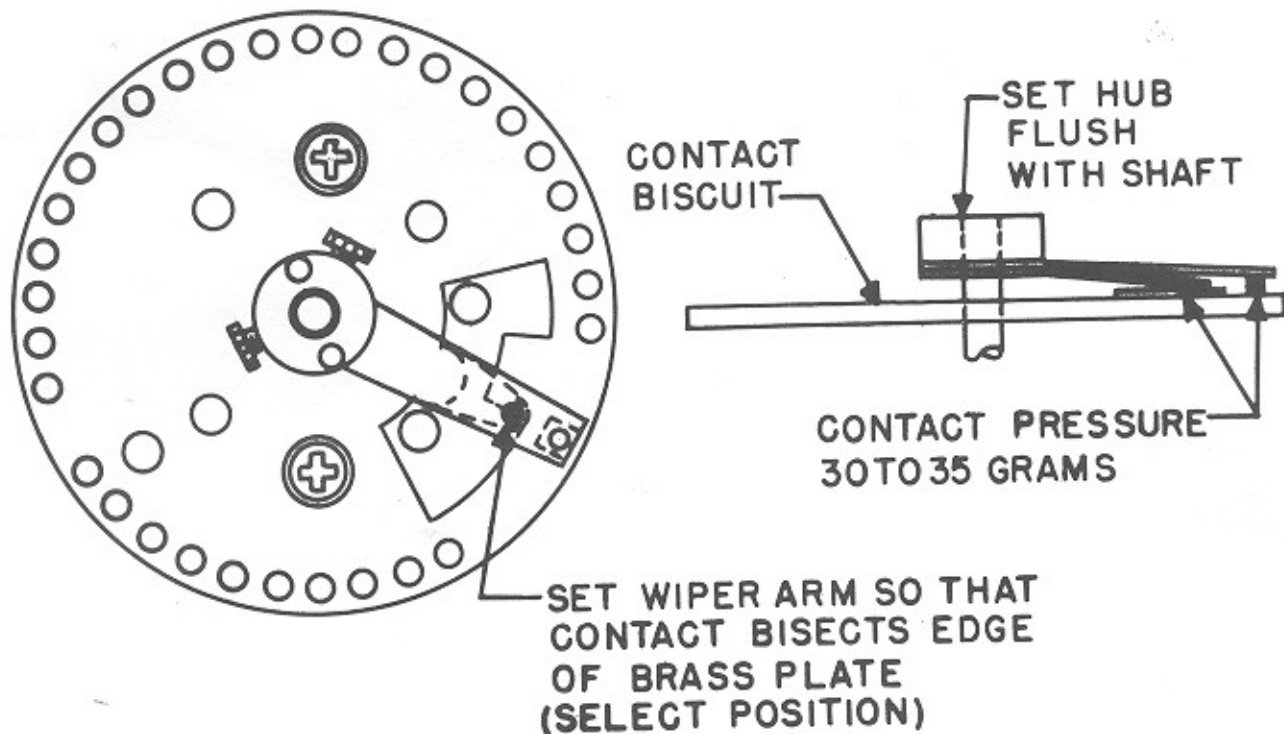

Fig. 2
The operation of the three wire system requires intermittent pulsing of the pulse relays in the receiver unit and is accomplished when the grounded contact wiper arm on the wall box gear motor passes over connected contacts on the contact biscuit assembly. A circuit diagram of the wall box is shown in Fig. 2.
2. Set wiper arm on the gear motor shaft so that the center of the contact of the short wiper arm rests on the edge of the lower left side of the "U" portion of the contact plate. Set hub flush with shaft. (See Fig. 2).
3. Tighten the set screws in the collar of the contact wiper arm, and adjust the contact wiper arm pressure to approximately 40 grams on both contacts. (See Fig. 2).
4. The motor switch pressure is 35 grams minimum. The switch should be adjusted to open when the center of the contact of the short wiper arm comes to rest about 1/8" before it reaches the edge of the lower left side of the "U" portion of the brass contact plate. (See Fig. 2).